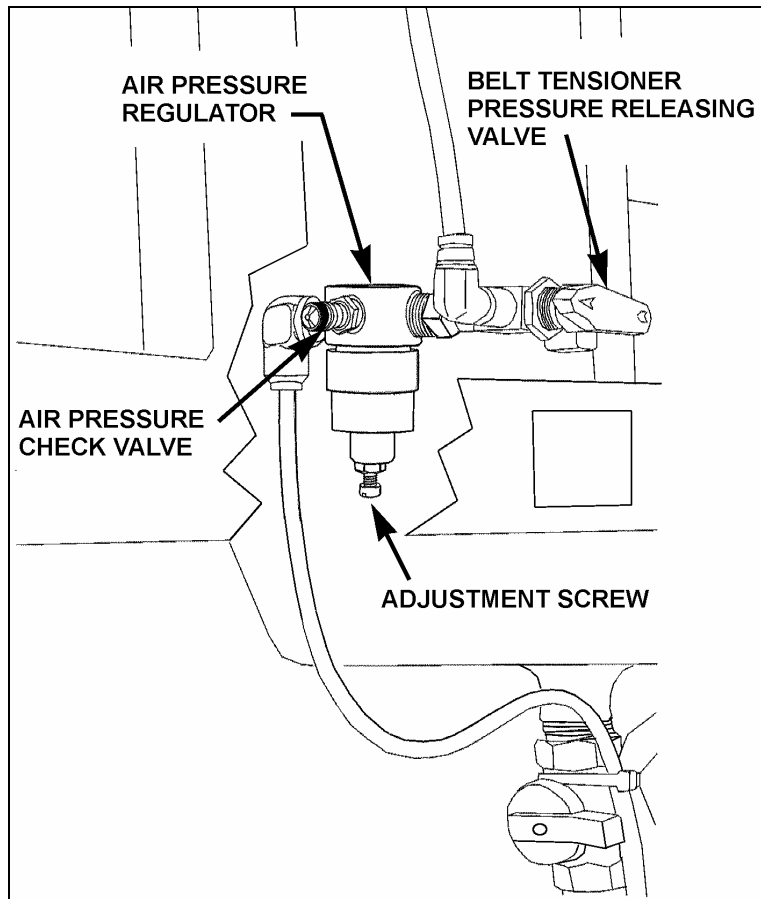

FIGURE 1
1. For parts replacement, air pressure must be released from bellows by turning the belt tensioning pressure control valve counterclockwise. This valve, mounted close to the pressure regulating valve, is manually operated. Before handling, set the rear start switch to OFF and observe all applicable safety precautions (Refer to figure 1).